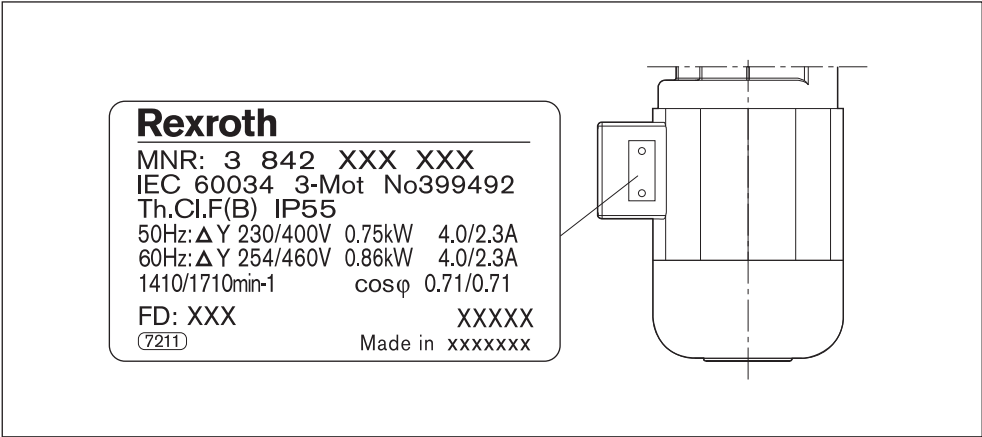

Fig. 17: Motor nameplate (example)
- Connect the motor in either a wye or a delta configuration in accordance with the wiring diagrams, see Fig. 17 on page 34, and the wiring diagram in the terminal box.